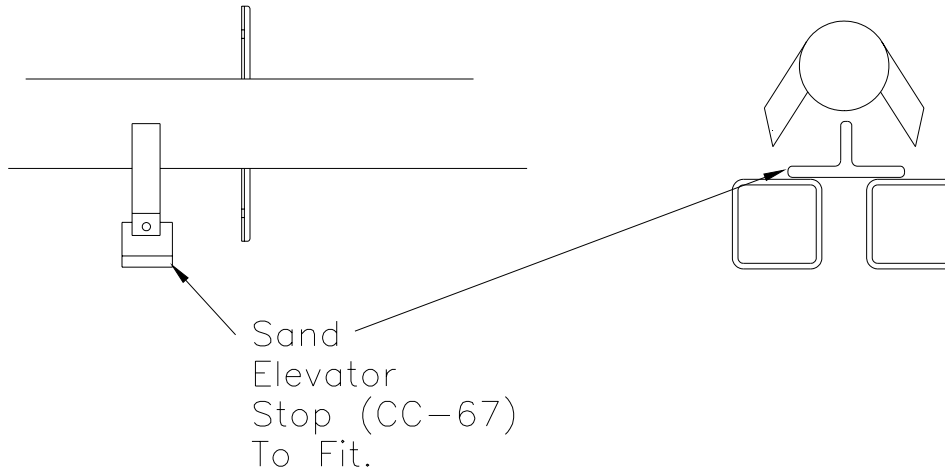

Figure 20.3.12
15) Locate and mark the position of the elevator stop (CC-67). Figure 20.3.12.